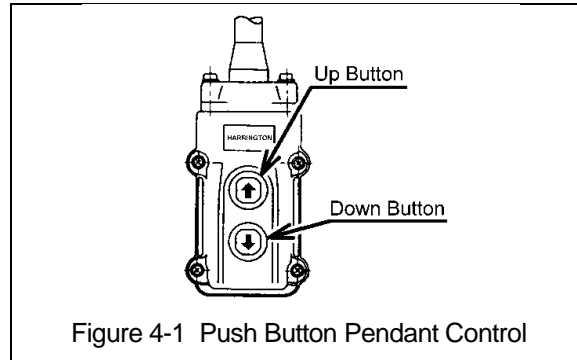

Figure 4-1 Push Button Pendant Control
4.3.1 Pendant Control – When using the pendant control depress the up button to raise the hoist or the down button to lower the hoist as shown in Figure 4-1 below. To stop motion release the buttons.